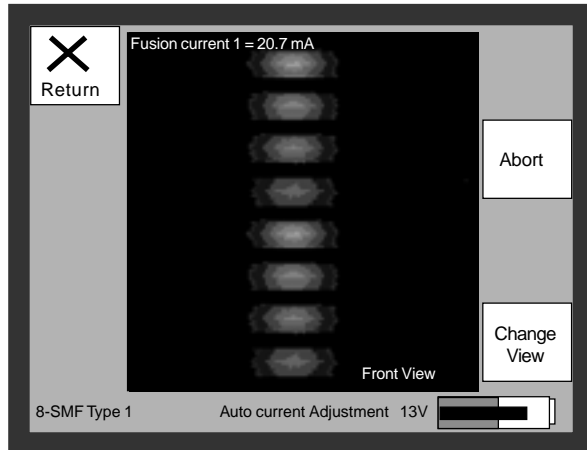

Fig. 65 - Hot image of fibres showing fusion current
- 7. A hot image of the fibres is presented on the monitor (fig. 65)